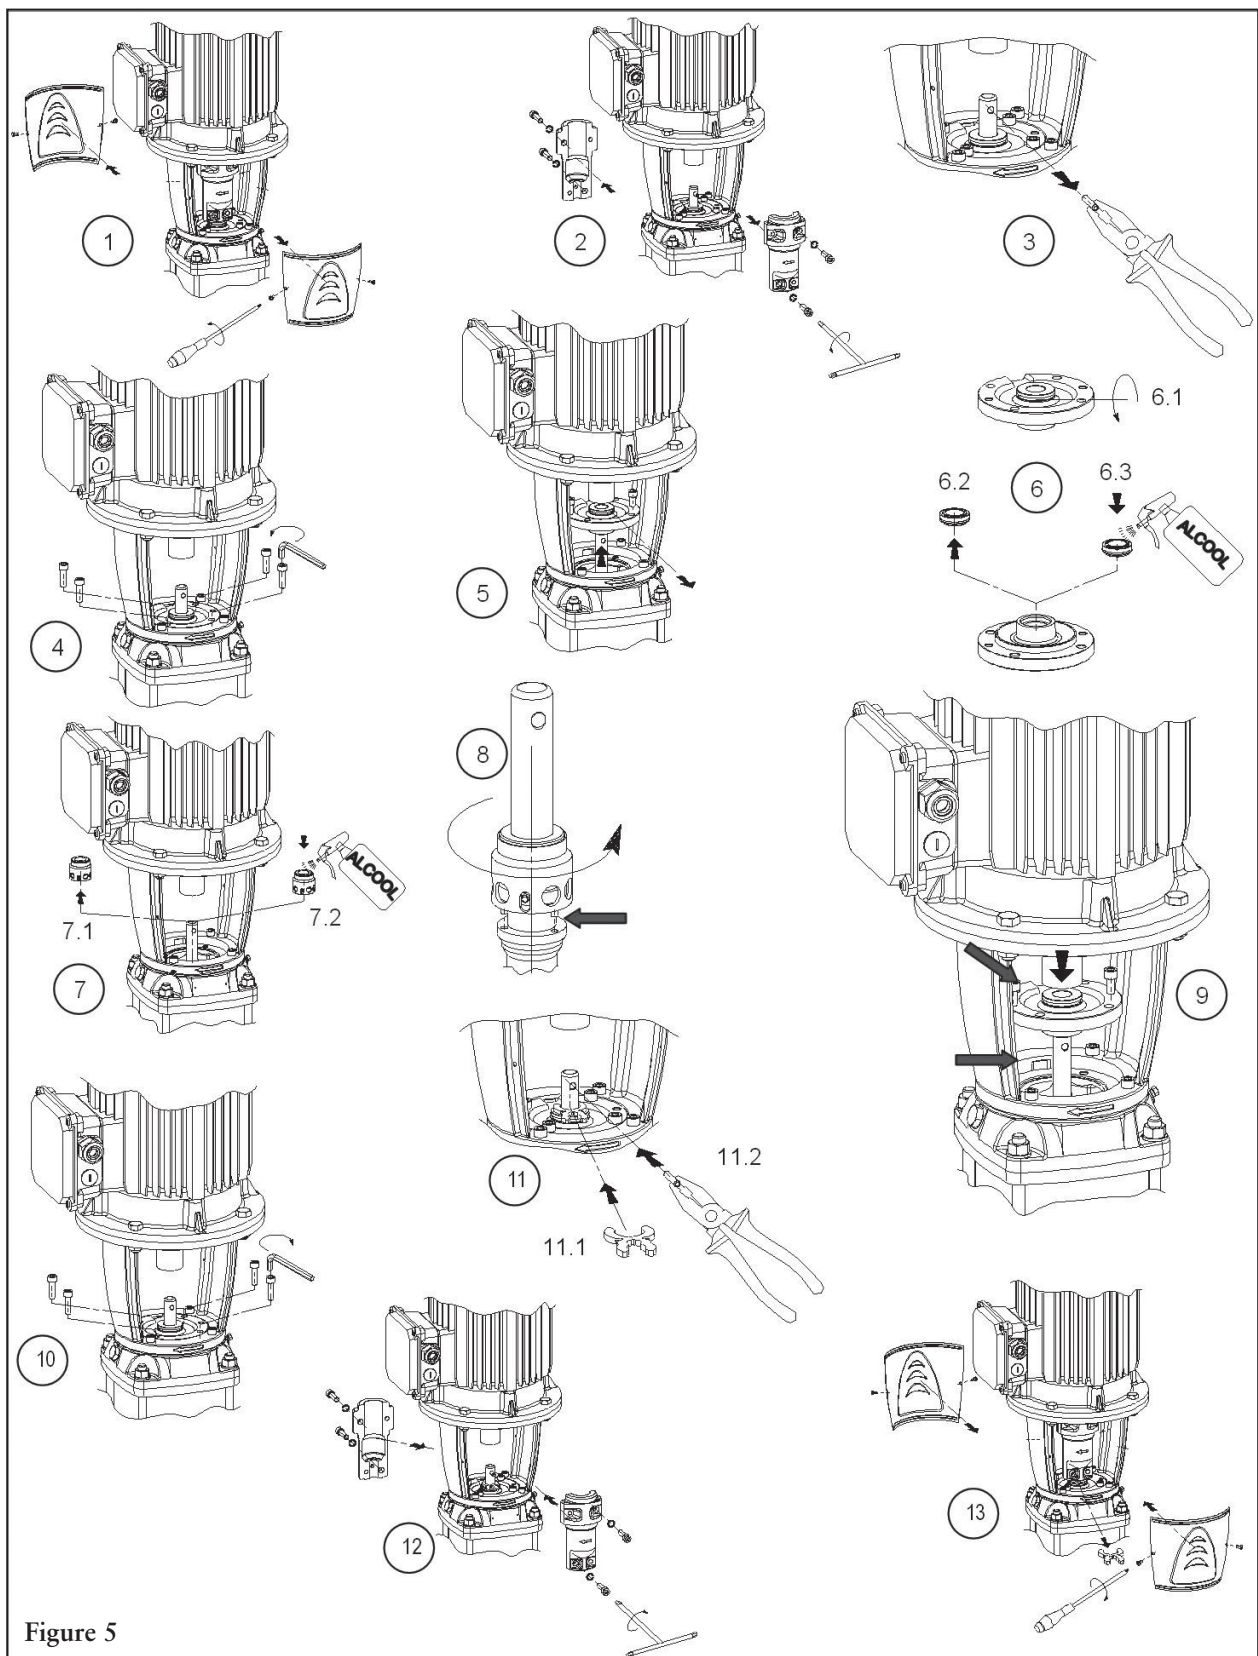

Figure 5
3. Remove the coupling guards, the 4 coupling hex cap screws, the coupling and coupling drive pin. See 1-3, Figure 5.
7. Remove the rotary portion at the mechanical seal by sliding the rotary unit axially upwards along the pump shaft. Inspect the pump shaft for any burrs or debris. Any burrs should be ground smooth with (fine grit) emery paper. See step 7 in Figure 5.
8. Lubricate the o-ring located in the ID of the rotary unit of the mechanical seal with a lubricant compatible with the seal elastomers. Carefully slide the rotary unit of the mechanical seal down the shaft. Rotate the seal to locate the pin on the bottom of the seal with the holes in the shaft sleeve (33-125SV only). Cycle seal up and down to lubricate o-ring and prevent seal from sticking to shaft. See step 8 in Figure 5.
9. Install a new seal housing o-ring on the seal housing. A lubricant can be used to hold the o-ring on the diameter of the seal housing. Carefully reinstall the seal housing between the pump and motor shaft and slide the seal housing down the shaft into position. **Use caution when mounting the seal housing between the pump/motor shaft so that the seal face on the stationary seat is not damaged.** See step 9 in Figure 5.
10. Reinstall the 4 hex cap screws, tightening the screws evenly and then torquing them to the values given in the engineering data. See step 10 in Figure 5.
11. Reinstall the coupling pin and locate the space shim on the shaft on the seal housing. **If the shim is not available, a 5 mm spacer can be used.** See step 11 in Figure 5.
12. Reinstall the coupling halves and evenly tighten the coupling bolts and torque them to the values given in the coupling section. Remove the spacer shim and save for future use. See step 12 in Figure 5.